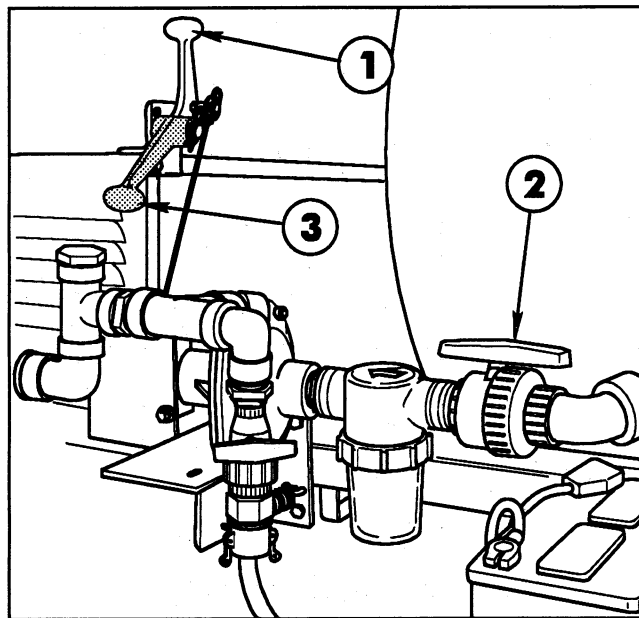

FIG. 3
1. Fill the Tank with water and open the Suction Line Valve. See FIG. 3.